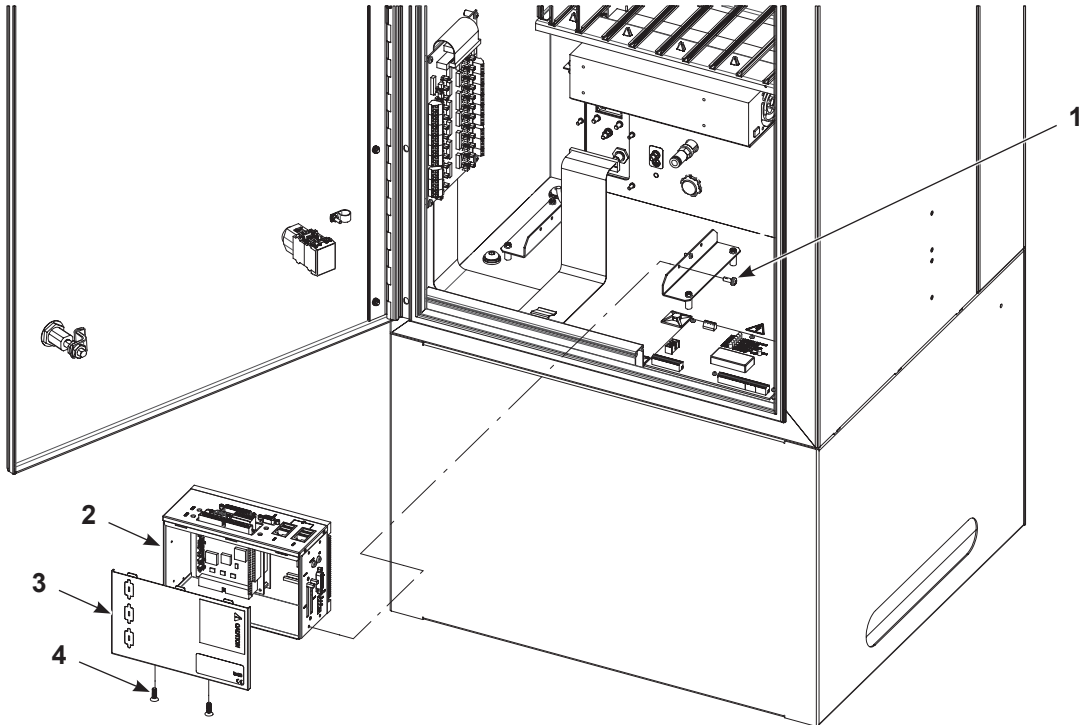

Figure 5-7 Removing PC
1. See Figure 5-7. From inside the iControl cabinet, disconnect any wiring or cables from the PC (2).
2. Remove the PC from the iControl by removing the din rail screws (1).
3. Remove the PC front panel (3) by removing the front panel screws (4).